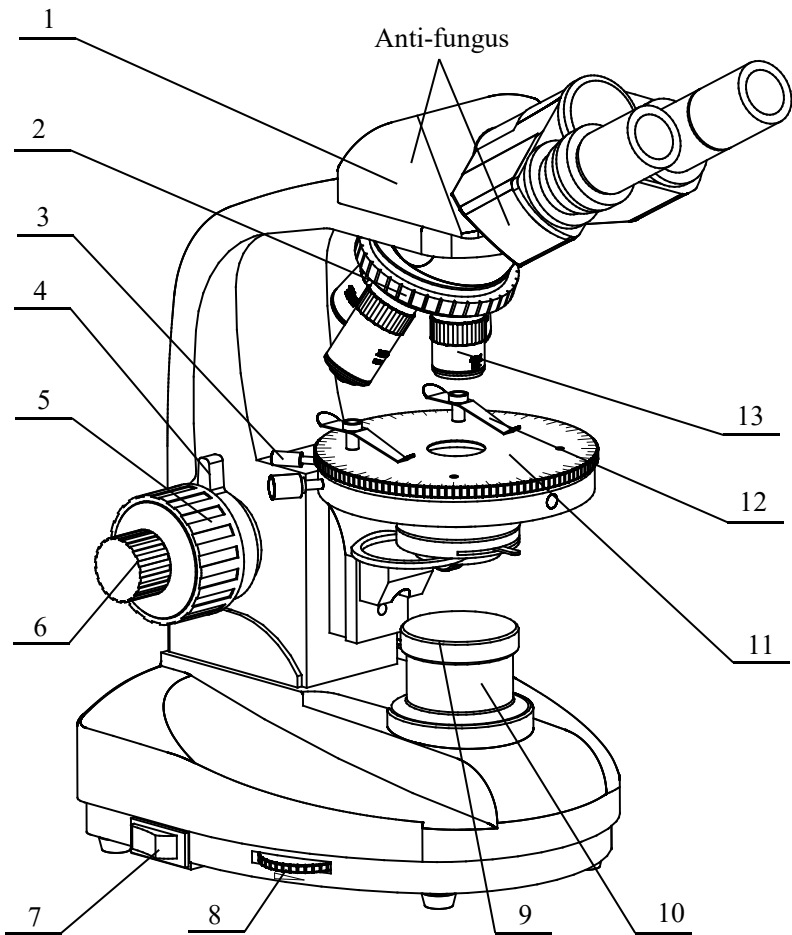

Fig.1
6. When to use polarize, push the Analyzer lever 8 to make the Analyzer on the observation position, rotate the polarizer 9, you can observe the variant contrast light of field.(Fig.1,2)